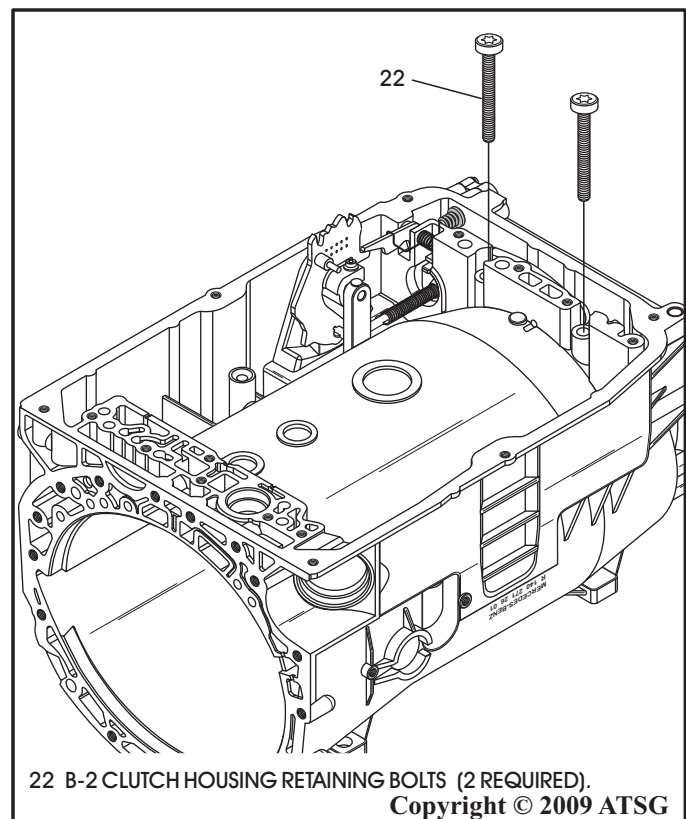

Figure 176
3. Install the two B-2 clutch housing retaining bolts, as shown in Figure 176, and hand tighten only at this time.